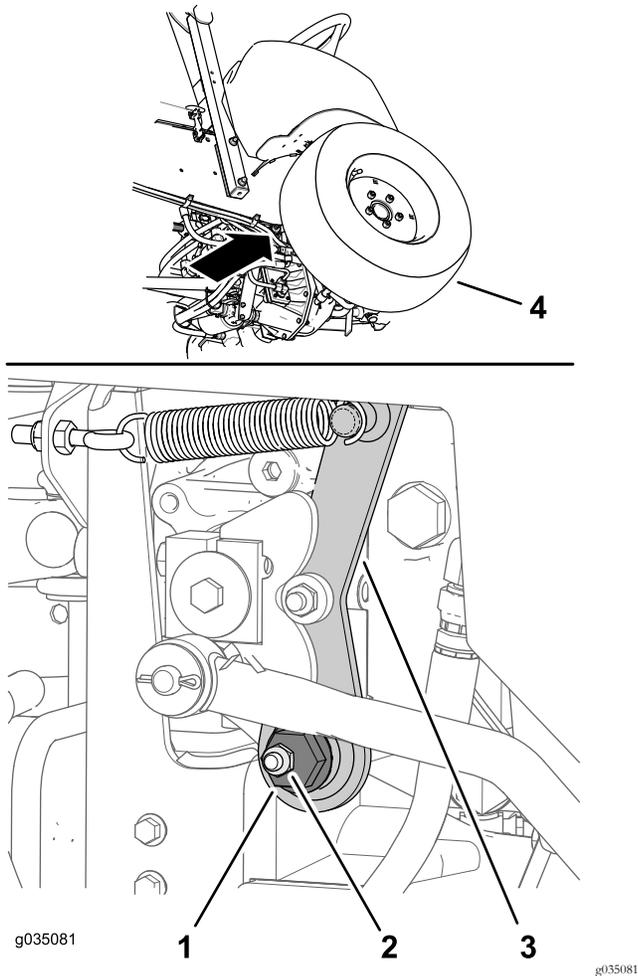

Figure 67
1. Locate the eccentric hex to the right of the hydraulic pump and below the control console (Figure 67).
2. Loosen retaining nut until you can move the eccentric hex (Figure 67).
hex eccentric clockwise until the front wheel starts to rotate rearward (Figure 67).